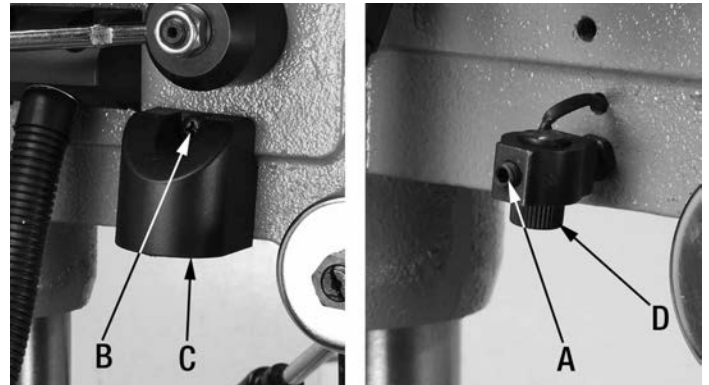

FIGURE 18
- To access the adjusting set screw (A) Fig.18, first remove the pan head screw (B) and remove the protective cover (C).
- Loosen the 3mm set screw (A) Fig.18 using a hex. key. Turn laser tip (D) until the laser beam is correctly positioned. Retighten set screw and reinstall protective cover. Repeat this step for the other laser guide if needed.